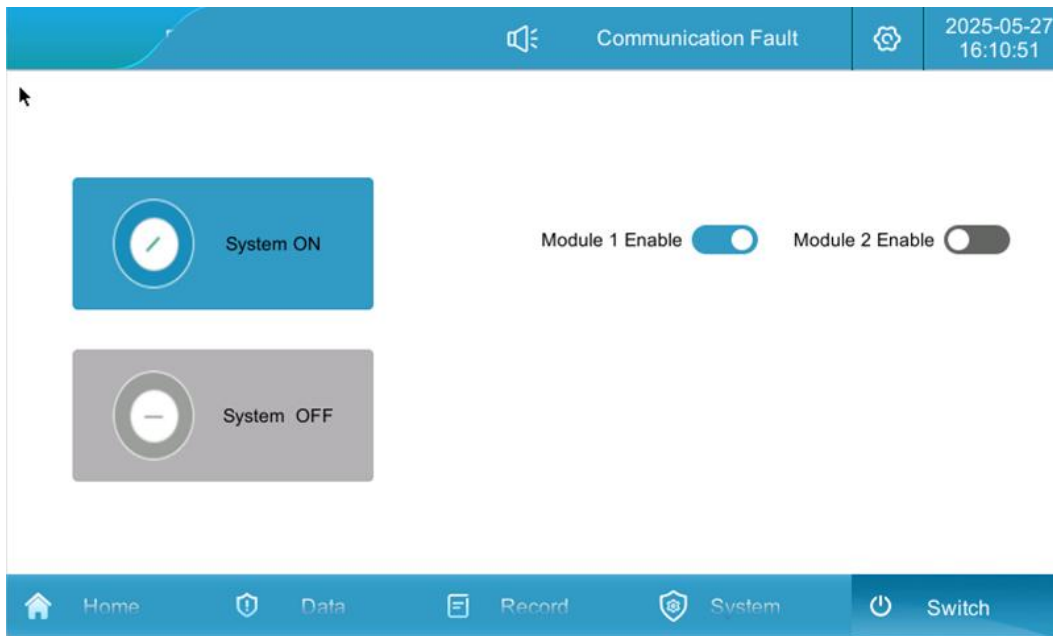

Figure 5-3 Switching Interface
- 5. In the touch screen "Switch" page to enable all the modules (you can also turn on some of the modules according to the actual need, the number of modules to the actual delivery shall prevail, in order to two modules as an example), click on the "System ON", the normal opening time of about 30 seconds, as Figure 5.3
- 6. Converter shutdown: When the converter is running, click on "System OFF" , as in Figure 5.3.